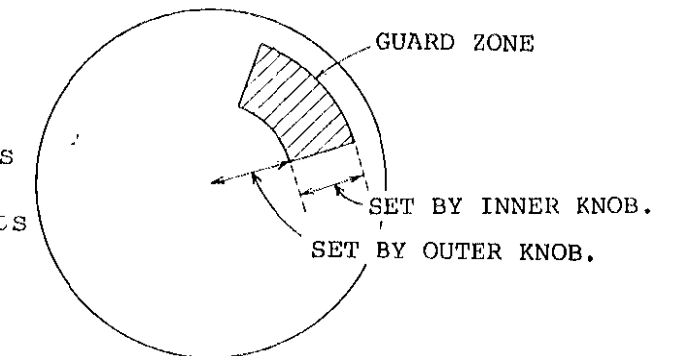
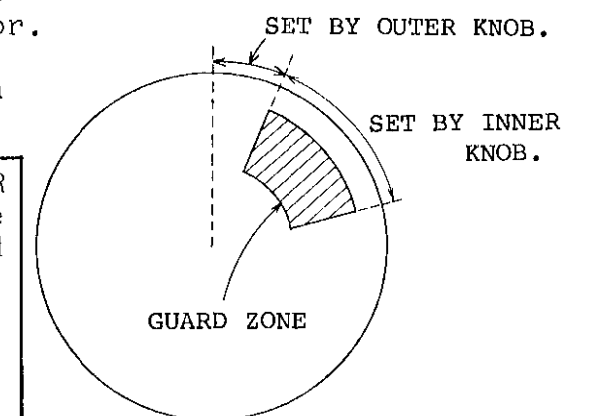
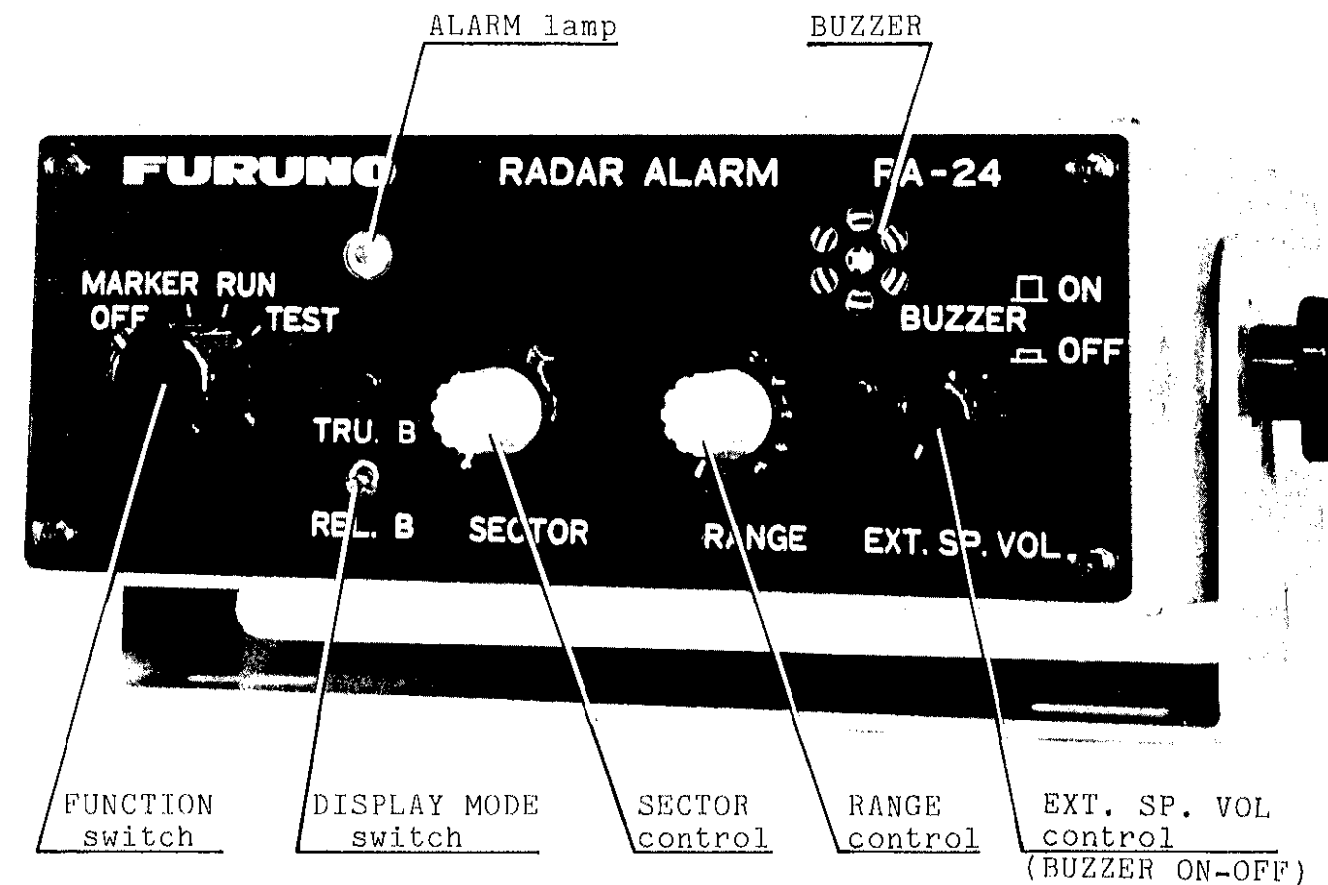

Fig.1-2 Range Setting
Fig.1-3 Sector Setting
Fig.1-4 Front Panel Controls and Switches
1-1. Function of Front Panel Controls and Switches (Ref. Fig.1-4)
Two controls adjust the direction and width of guard sector. Outer knob set the direction and inner knob sets the width as shown in Fig.1-3.
- 3) Set the guard zone with the RANGE and SECTOR controls. See Fig.1-2 and Fig.1-3.
- 2) Turn the FUNCTION switch to "MARKER" position. A guard zone will appear on radar screen as shown in Fig.1-2.
- 3) Set the guard zone with the RANGE and SECTOR controls. See Fig.1-3 and Fig.1-4.